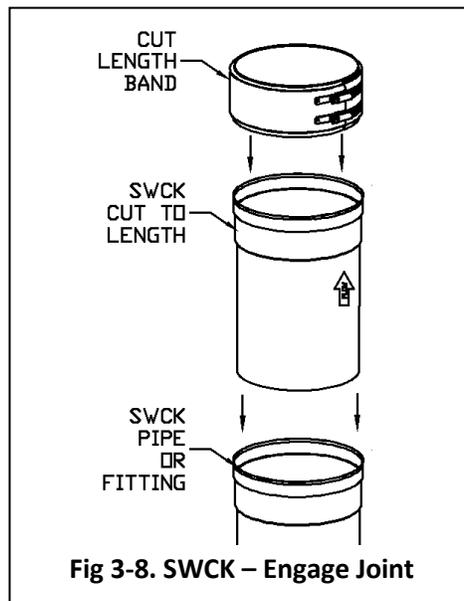

Fig 3-8. SWCK – Engage Joint
6. Engage Cut length until it bottoms out in the adjacent female socket. (See Fig 3-8).